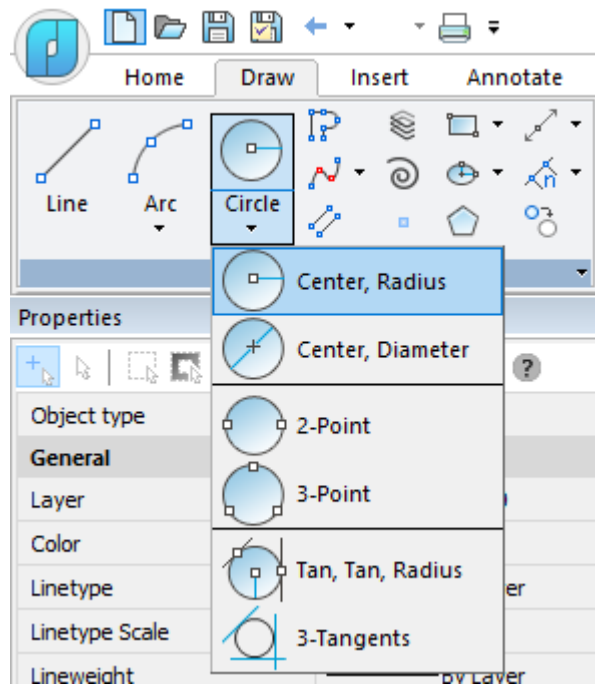

Fig. 7. Circle by Center and Radius
6. Call the Circle – Center, Radius tool (fig. 7):